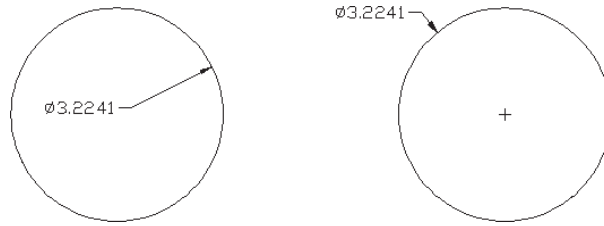

Figure 10.7
3. At the Specify dimension line location or [Mtext/Text/Angle]: prompt, you'll see the Diameter dimension drag along the circle as you move the cursor. If you move the cursor outside the circle, the dimension changes to display the dimension on the outside. (See the right image in Figure 10.7.)